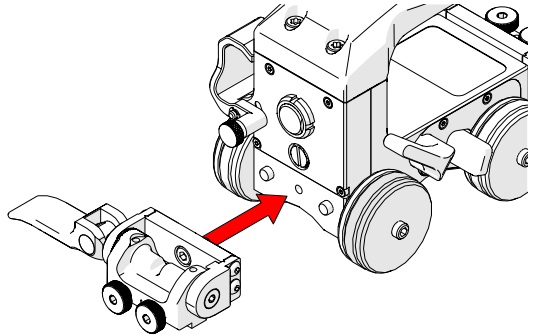

Fig. 34 - Position on cart body
2. Align the rear pivot with the pins at the rear of the cart (Fig. 34).